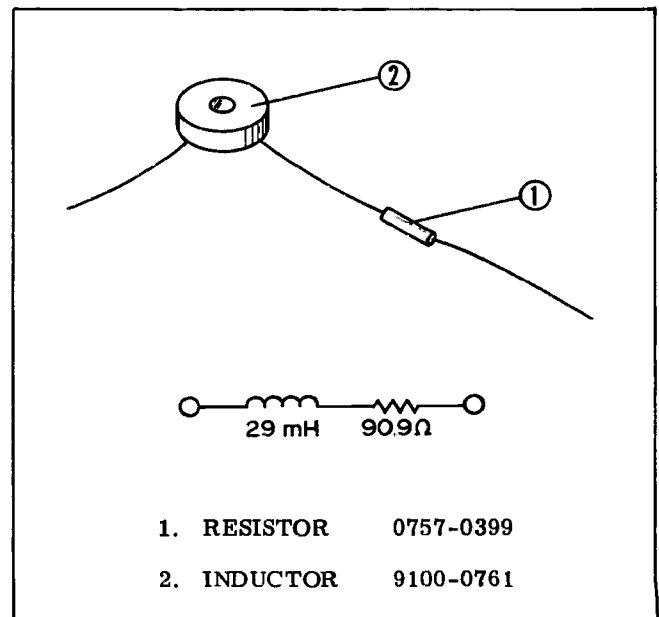

Figure 5-3.  $(90\Omega + j180\Omega)$  Impedance
- e. Set the range to 100Ω and measure an impedance of  $(R + j\omega L)$  as shown in Figure 5-3, where R should be calibrated by DC bridge and the reactance value twice that of R.